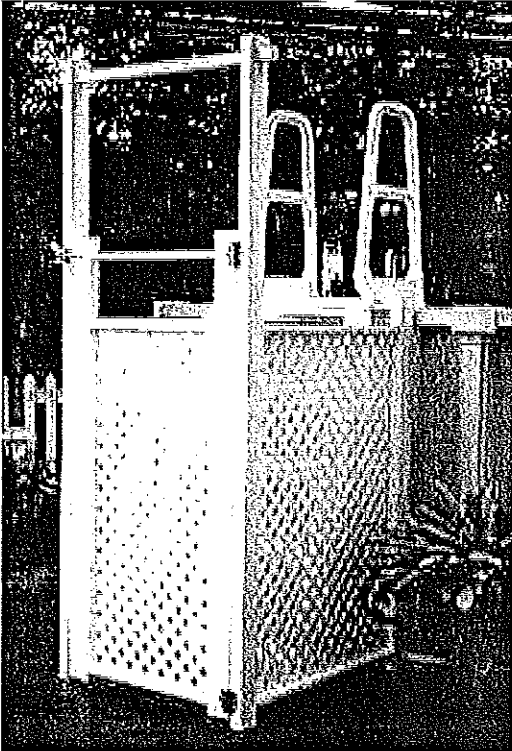

Figure 7
requirements of items 1 through 8. A removable ladder shall not constitute an acceptable alternative to enclosure requirements. (Figure 7, 8 and 9)